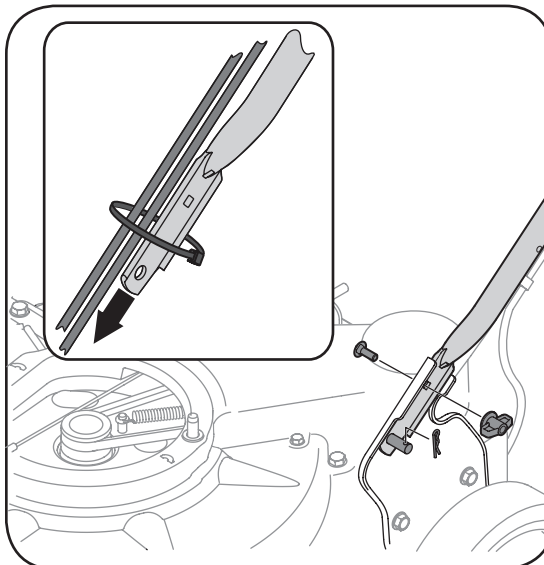

Figure 3-2
- a. Place the bottom holes in lower handle over the pins on the handle brackets and secure with hairpin clips. See Figure 3-2.
- b. Insert carriage screws through upper hole in lower handle from the inside and secure with wing nuts. See Figure 3-2.